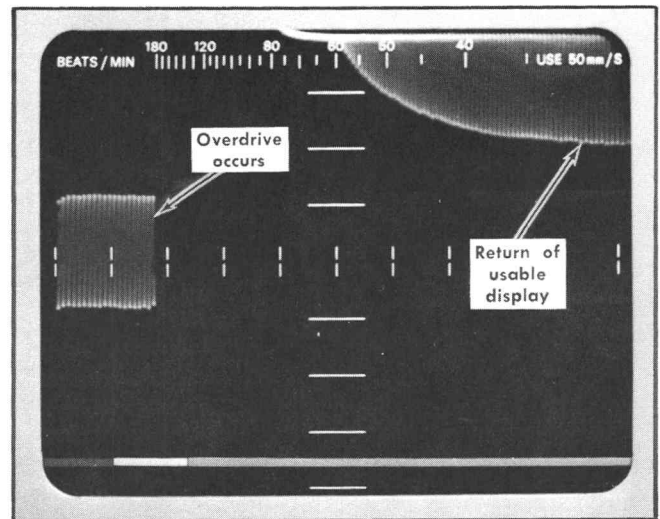

Fig. 5-4. Typical CRT display when checking overdrive recovery time.
e. CHECK— ≥ 5.7 centimeters of vertical display (see Fig. 5-4).
b. Adjust the sine-wave generator for a 2-centimeter display at 60 hertz (see Fig. 5-4).